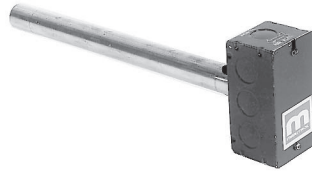

Figure 16. Sensor and Mixing Tube Assembly
- a. For units with sensor and mixing tube assembly (see Figure 16), remove ductwork access panel, slide mixing tube into ductwork, and secure sensor.